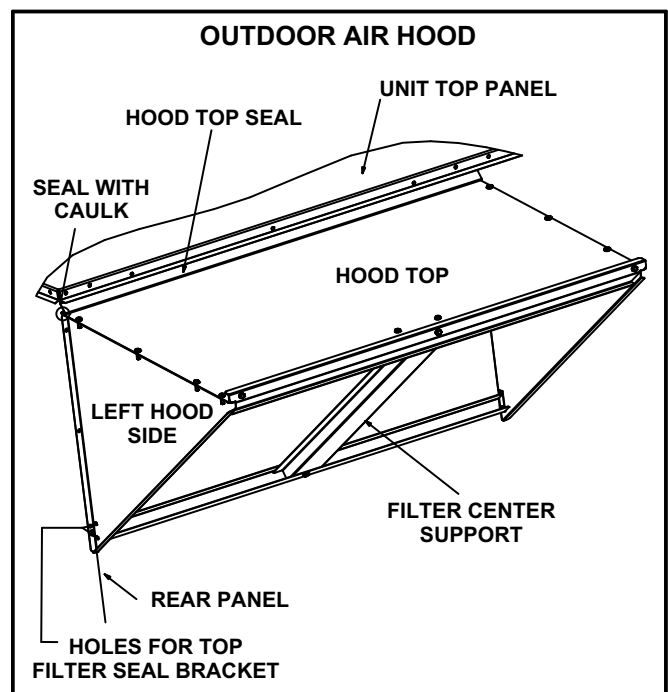

FIGURE 29
- 9 - Slide two filters into slot of the bottom filter seal bracket. Insert a filter spacer between the two filters and secure it to the hood top panel. Use the provided threaded hex insert and a #10 - 32 X 1/2" thread forming screw to secure the hood top filter bracket. See figure 29.